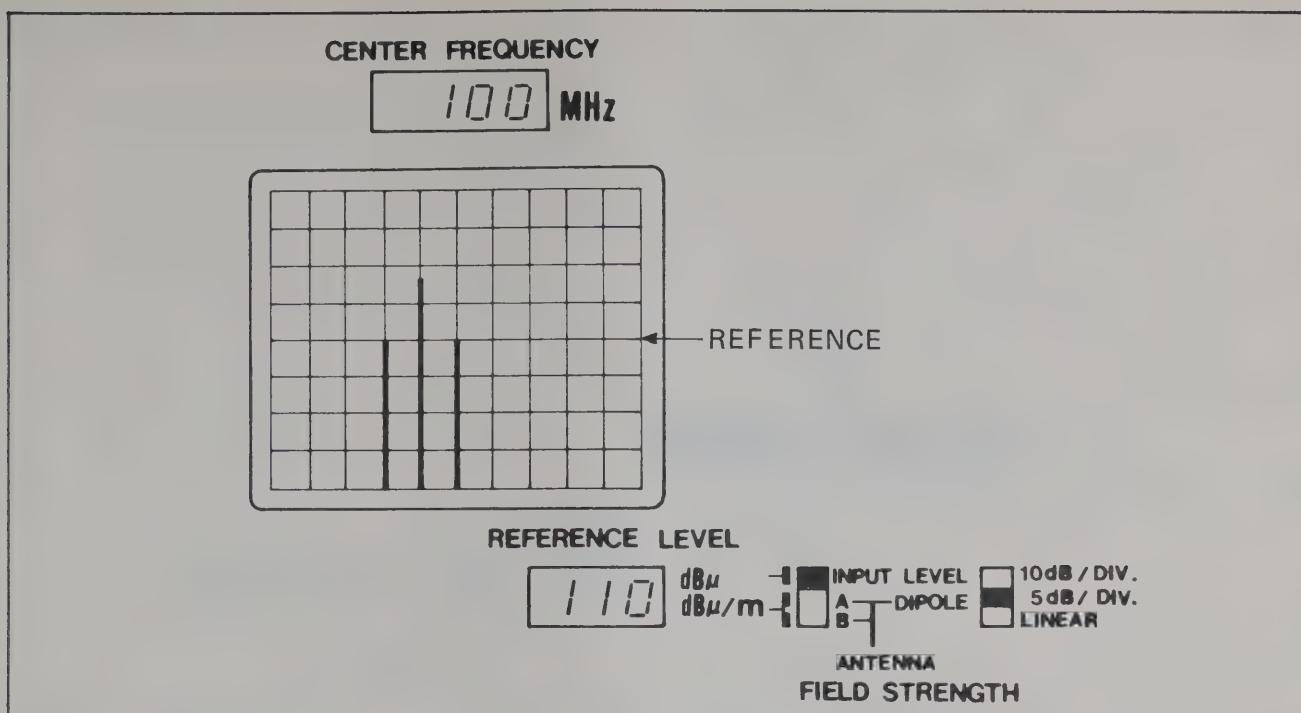

Figure 4.7 Bandwidth Switching Level Error Test Procedure
- e. Switch DISPERSION/DIV. from 100 MHz/DIV. to 0.1 MHz/DIV. in sequence and observe the signal level at each bandwidth. Then, keeping DISPERSION/DIV. at 0.1 MHz/DIV., switch B.W. counter-clockwise in the sequence of AUTO — 9 kHz — 120 kHz — 1.5 MHz, and observe the signal level. Verify that the level difference between the highest and the lowest levels obtained during this procedure is within 1 dB (Figure 4.7).